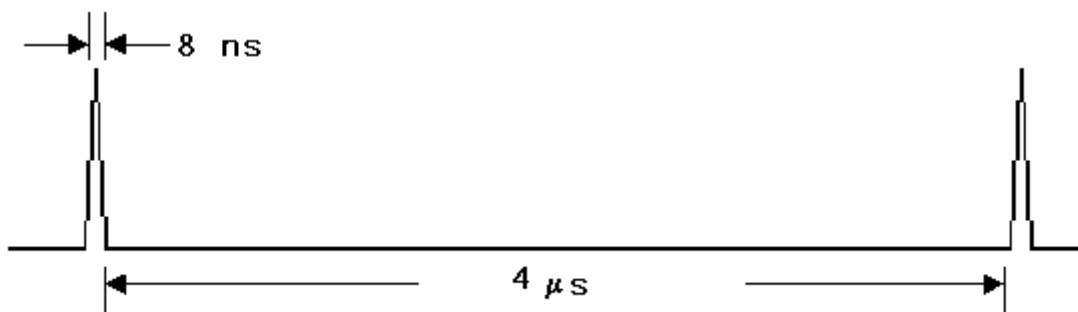

Figure 12. Signal on RXST1 when BIST is Successful
16. The board should already in BIST mode at this time. Verify the oscilloscope display on RXST1 matches with the waveform in *Figure 12*.